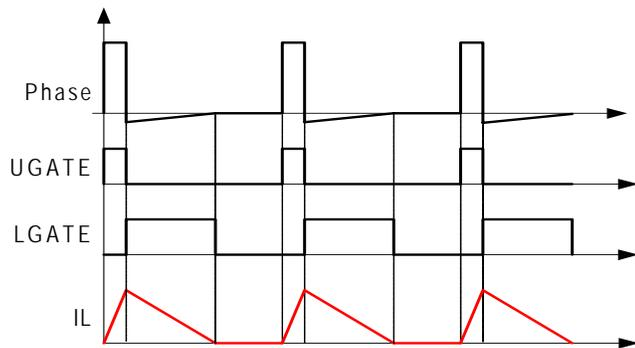

FIGURE 6. DIODE EMULATION
ISL62882 can operate in diode emulation (DE) mode to improve light load efficiency. In DE mode, the low-side MOSFET conducts when the current is flowing from source to drain and doesn't allow reverse current, emulating a diode. As Figure 6 shows, when LGATE is on, the low-side MOSFET carries current, creating negative voltage on the phase node due to the voltage drop across the ON-resistance. The ISL62882 monitors the current through monitoring the phase node voltage. It turns off LGATE when the phase node voltage reaches zero to prevent the inductor current from reversing the direction and creating unnecessary power loss.
If the load current is light enough, as Figure 6 shows, the inductor current will reach and stay at zero before the next phase node pulse, and the regulator is in discontinuous conduction mode (DCM). If the load current is heavy enough, the inductor current will never reach 0A, and the regulator is in CCM although the controller is in DE mode.